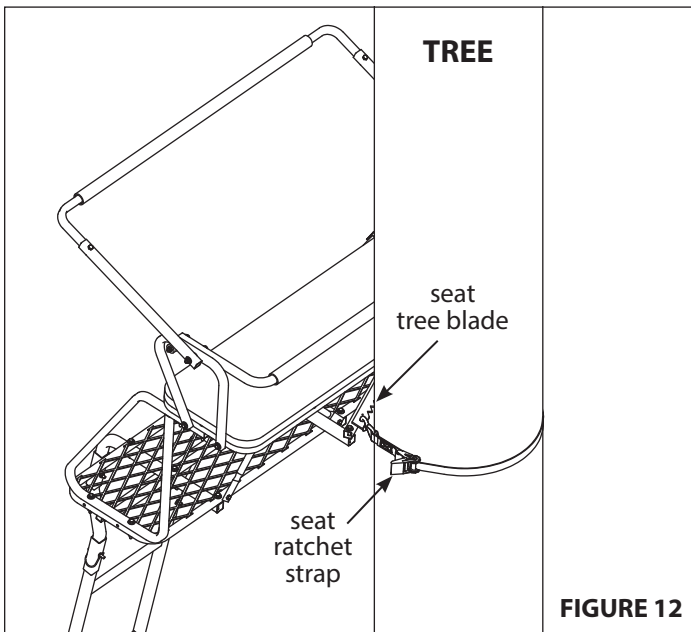

FIGURE 12
4. Standing on ladder step, lean toward tree with ratchet strap now in hand, Hook "S" hook with long strap through hole provided on seat tree blade. Feed the long strap through the center (slot) of ratcheting mechanism and back around through tightening lever. **SEE FIGURES 12 AND 14.**
Wrap entire ratchet assembly around tree and hook other "S" hook through opposite tree blade hole. Pull tail of long strap until most of the slack is taken out. Be sure entire strap is even and at the same level all around tree. "Ratchet" tight to tree, this will securely attach ladder to tree and prevent movement. **SEE FIGURES 12 AND 13.**